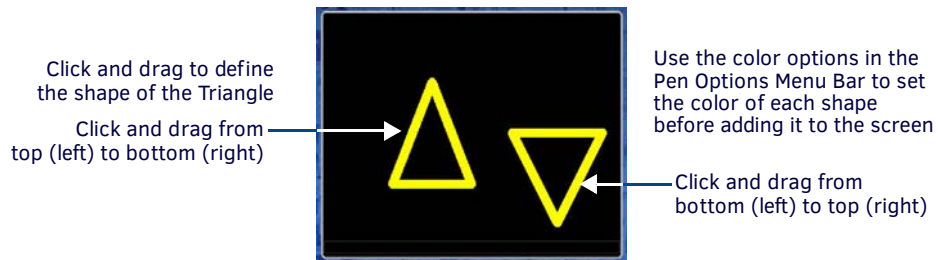

FIG. 100 Drawing Triangles
- **Triangles** - The triangle tool draws isosceles triangles, with a straight line at the bottom relative to the cursor position (FIG. 100):